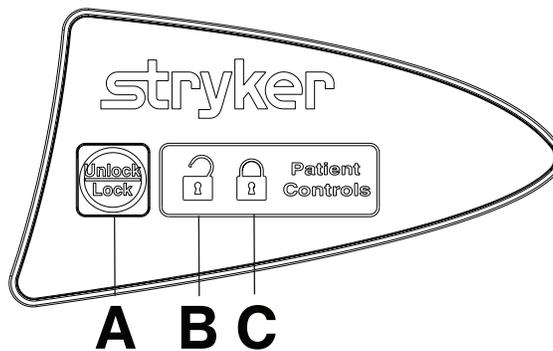

Figure 16 – Patient control panel lockout
To lock the siderail patient control panel, press **Unlock/Lock** (A) once (Figure 16).
**Note** - The lock icon (C) illuminates amber when the patient controls are locked.